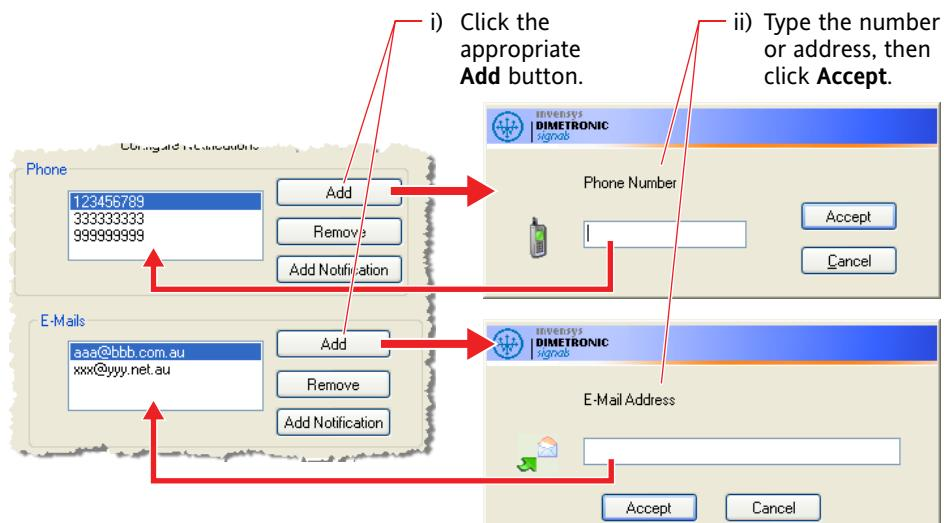

Figure 4.46 Adding an SMS number or address
- Follow the steps in figure 4.46 to add the required phone number or e-mail address to the notification list.